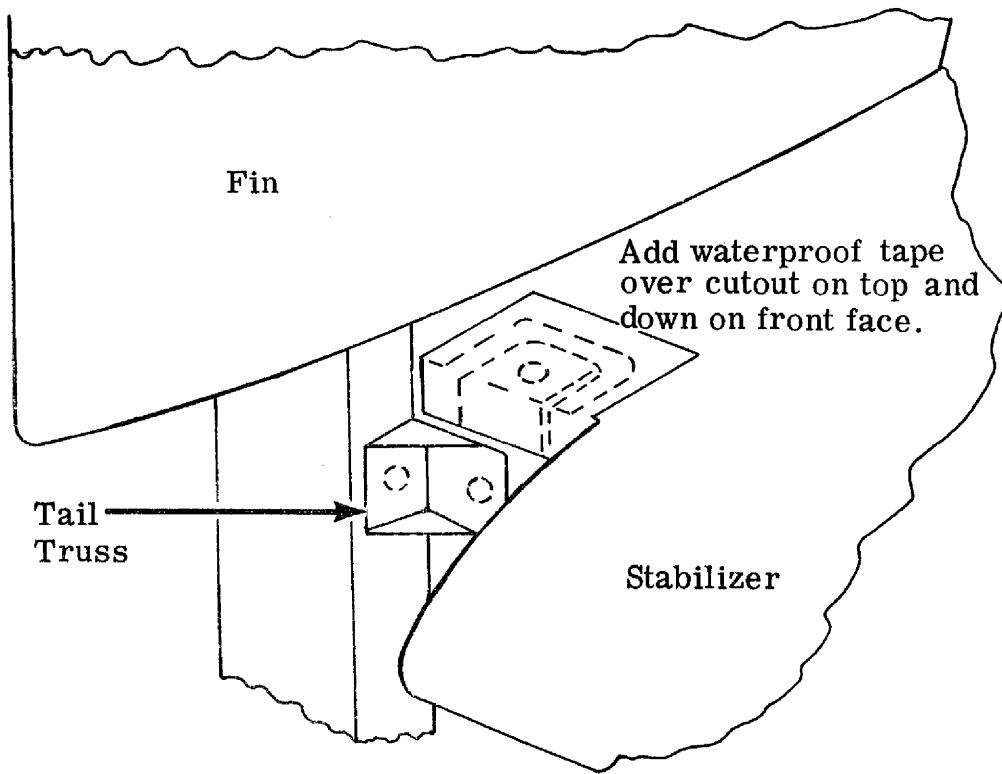

FIG. 4
- 5. Remove the water-proof tape on the right and left side of the horizontal stabilizer and inspect the wood structure. Reinstall tape as shown in Figure 4.
7. Add a piece of water-proof tape on the right and left side of the horizontal stabilizer as shown in figure 4.